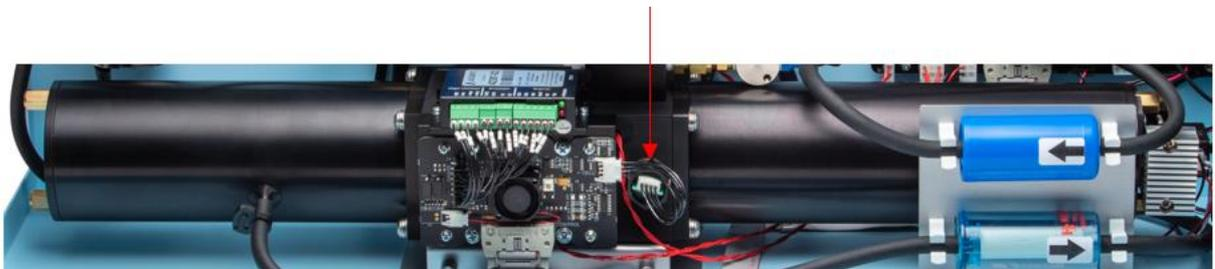

Figure 163 – Location of Temperature Pressure RH Sensor
4. Locate the Pressure, Temperature, and Relative Humidity sensor on the front side of the cell, refer to Figure 163